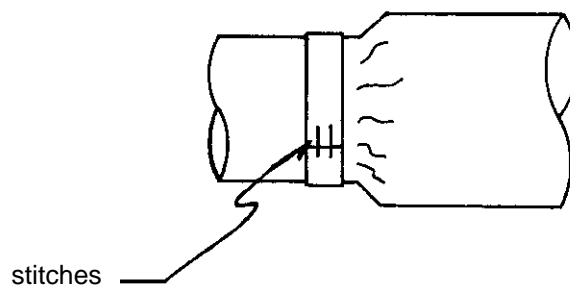

FIGURE 3 - SECURING OF TAPE ENDS
- Step 5. Secure the end of the tape with two single stitches using glass fibre thread as shown in Figure 3.